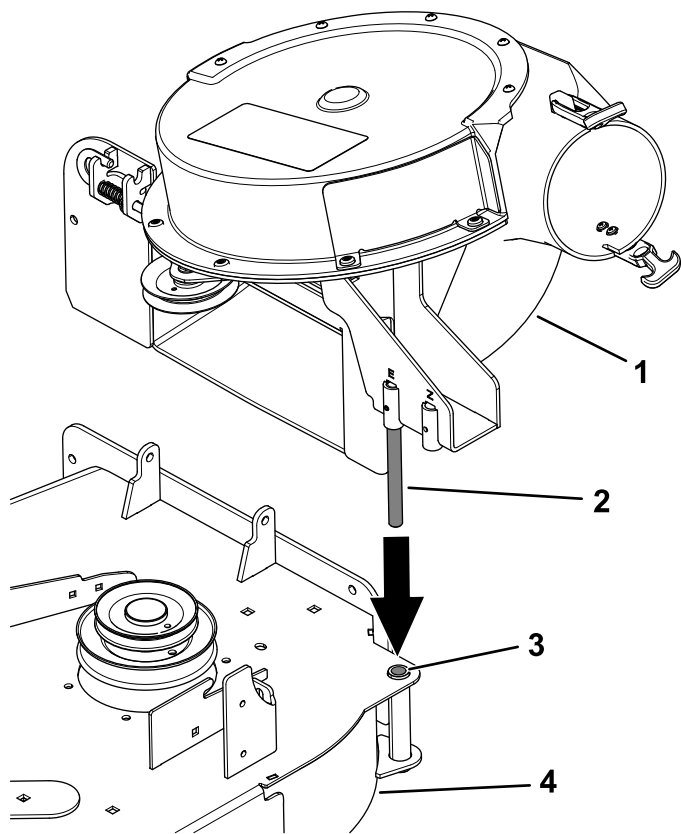

Figure 40
1. Align the pivot pin on the blower with the pivot-pin hole in the mower deck (Figure 40).
3. Lower the blower and slide the pivot pin into the pivot hole (Figure 40).